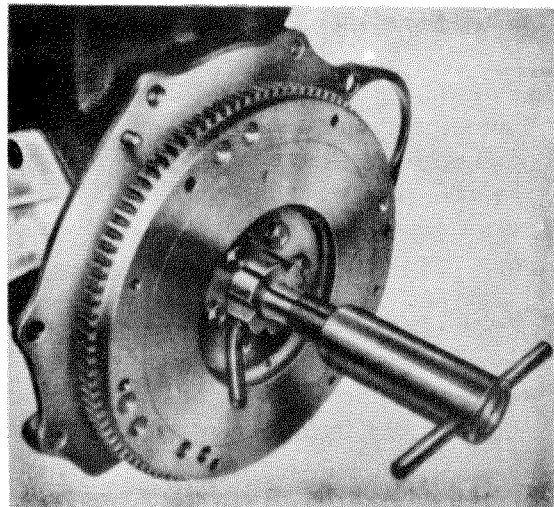

Fig. 01—4/52
ference, fill the space between the two sealing lips with high-viscosity grease and press in the sealing ring with a suitable insertion sleeve with pressure block (see Fig. 01—4/48).
2. Check the annular grooved bearing assembly on crankshaft. If on examination the annular grooved bearing assembly is found to be defective, the bearing cover and the bearing itself should be pulled off with Puller 136 589 07 33 (Fig. 01—4/52).